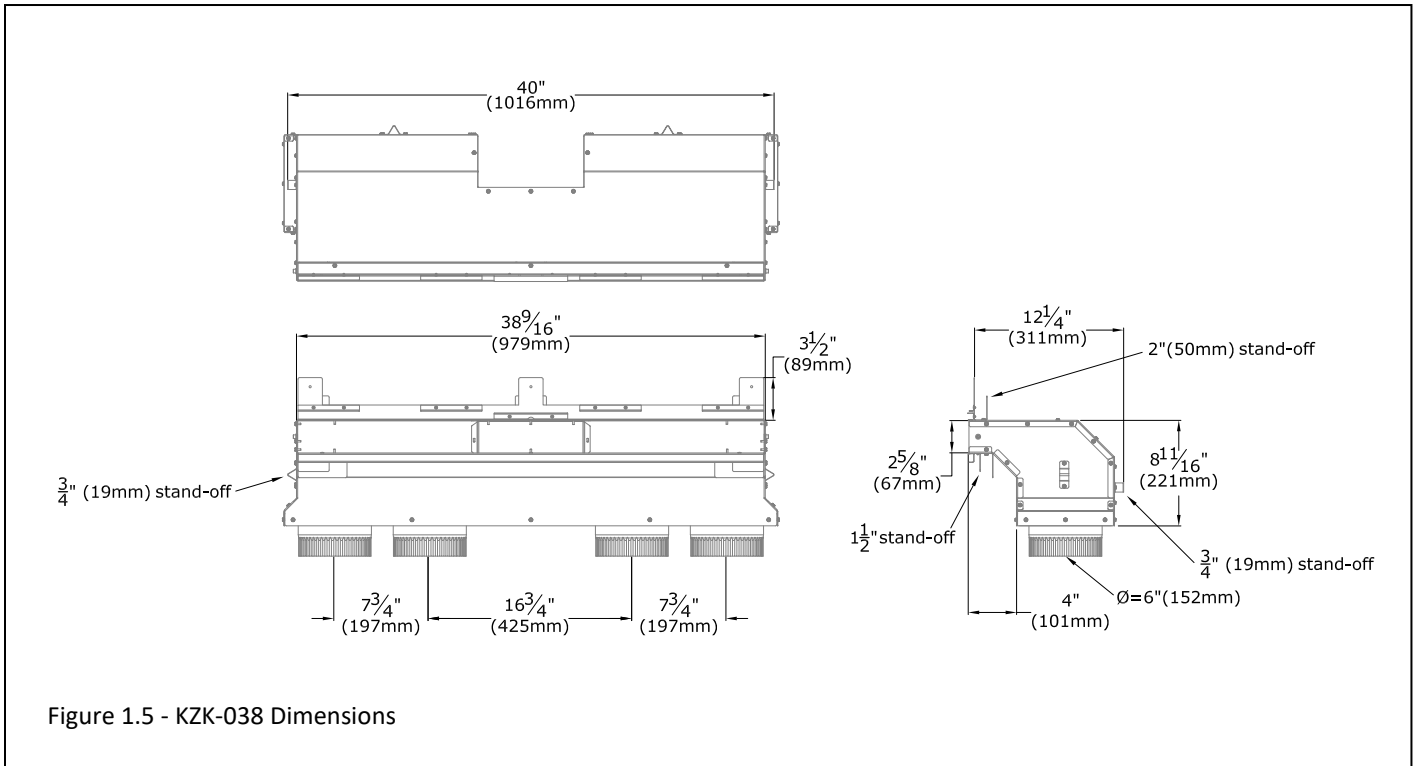

Figure 1.5 - KZK-038 Dimensions
- La figure 1.5 montre deux configurations courantes.